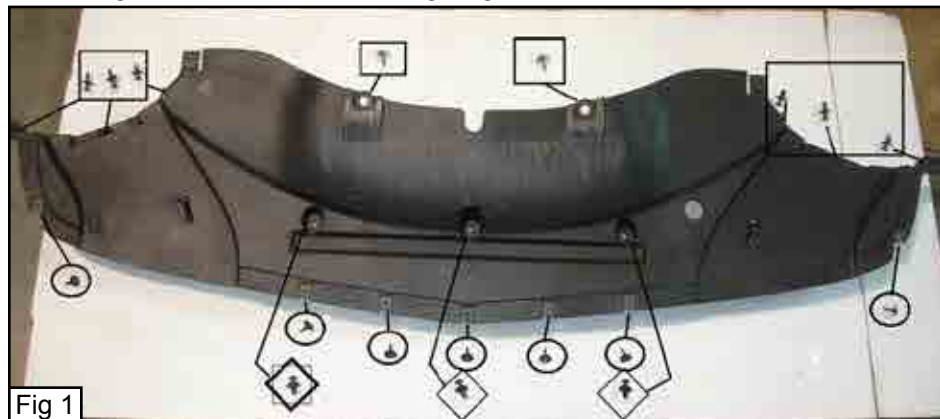

Fig 1
Remove the plastic cover from under the front of the vehicle (Fig 1), this gives you access to the underside of the front bumper. There are (9) plastic pop clips, (2) 10mm bolts and (7) 7mm bolts. (Fig 1) Remove the factory logos from the factory grille by reaching through the factory grille with your finger and depressing the clips on the backside of the logos while pulling the logo from the front of the vehicle. The clips are located on the outer ends and center of the logos. If you would like to reinstall the logos on the phantom grille, cut the tabs off the backside of the logos and use the supplied logo mounting plates with double sided tape. Reinstall the logos onto the phantom grille and secure with a 6/32" nylon lock nut and large black washer before installing the grille onto the vehicle.